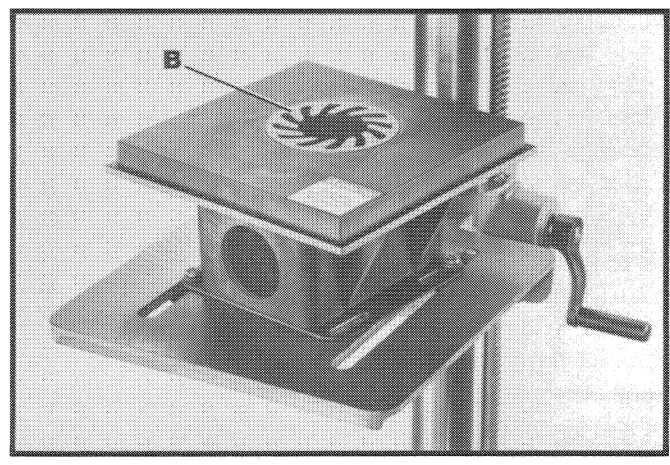

Fig. 22
Two table inserts (A) and (B) Fig. 21, are supplied with your oscillating spindle sander for use with different size sanding drums. Use the insert that will give the most support underneath the workpiece and assemble the insert into the table opening. Figure 22 illustrates the large hole insert (B) assembled to the table.